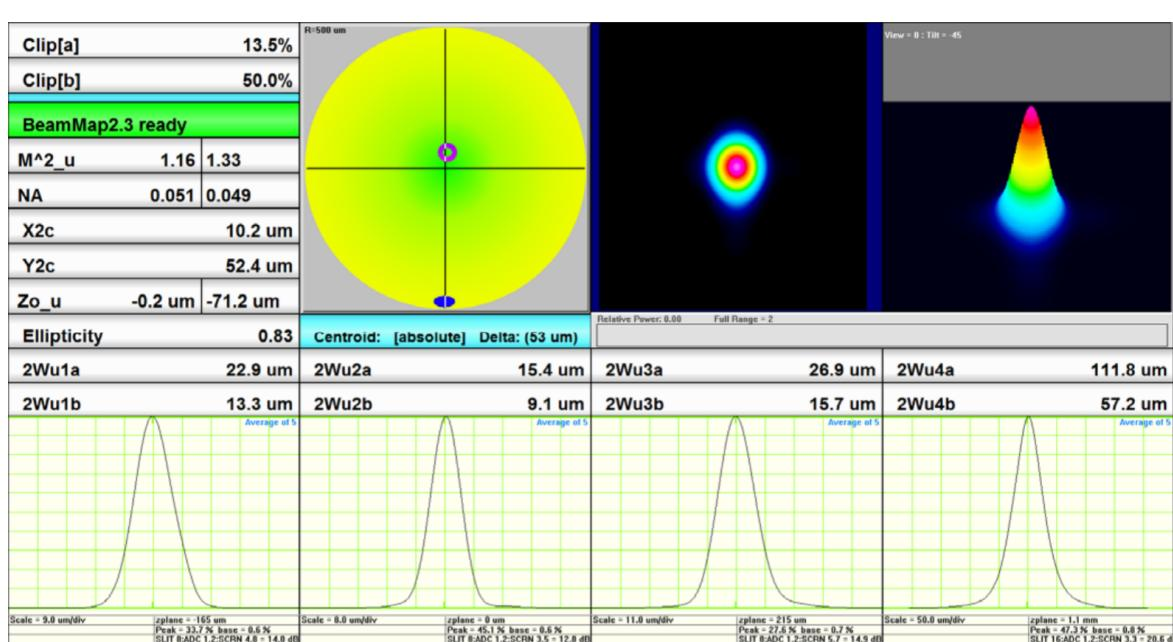

Figure 5: The final result of the pulsed laser setup in the DataRay software
15. Click on **M2** in the toolbar to show the screen in Fig. 4a. A CW laser dialog (Fig. 4b) is also given for comparison. For an example of the final result of proper first setup, see Fig. 5.